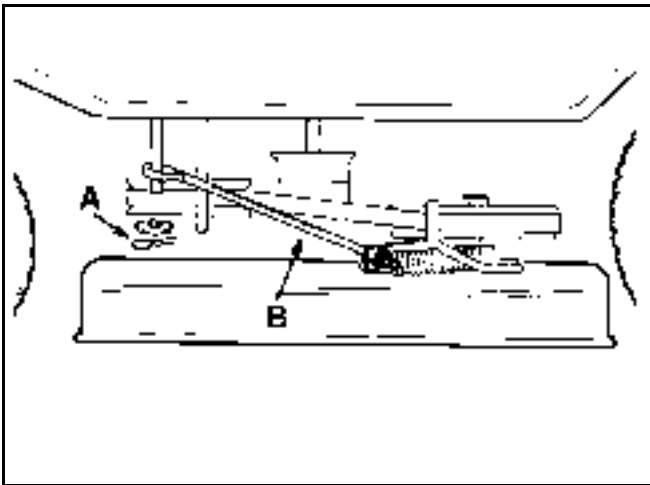

Figure 203
9. Install the blade control rod onto the blade control arm and secure it with the washer and hairpin cotter (Figure 203).